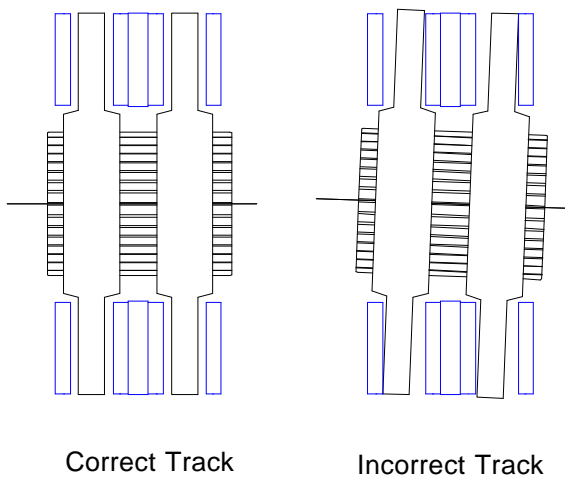

Fig. 2
Proper alignment is necessary to assure that the discs (4) will track properly. Improper alignment will result in excessive wear to the friction discs (5), discs (4) and gear (22). See Figure 2.